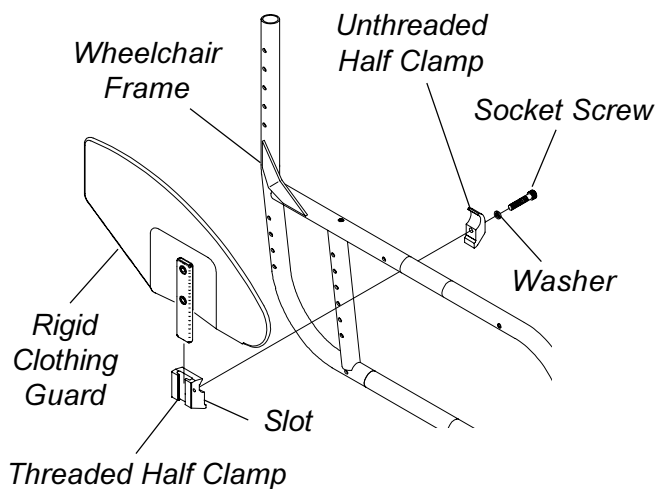

FIGURE 12 - INSTALLING RIGID CLOTHING GUARDS
INSTALLING RIGID CLOTHING GUARDS (FIGURE 12)
3. Determine the desired rigid clothing guard position and securely tighten the two (2) half clamps together with the socket screw.
4. Insert the rigid clothing guard into the slot on the threaded half clamp as shown in **FIGURE 12**.